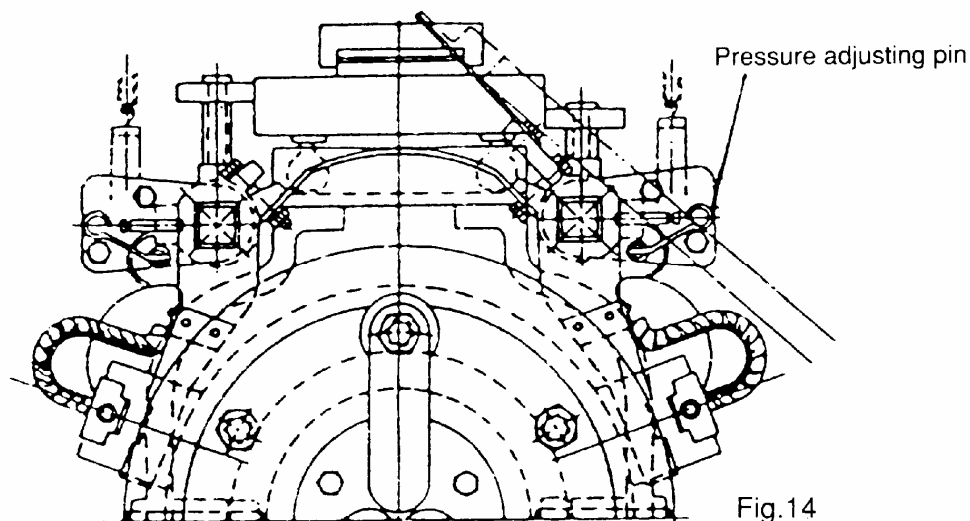

Fig.14
- The brush pressure may be reduced after use, so it is necessary to re-adjust. For adjustment, please turn adjusting screw, pressure adjusting pin or pressure adjusting plate as shown in Fig. 14 to obtain the correct tension ($=0.23 \times \text{brush cross sectional area in cm}^2 \pm 10\%$ kg).